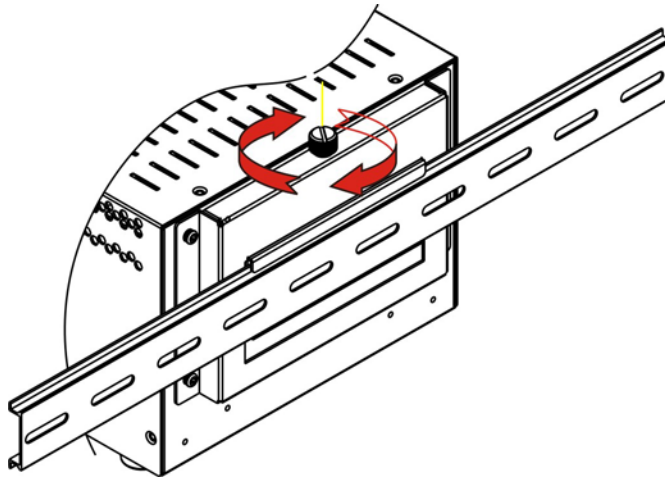

Figure 3-22: Secure the Assembly to the DIN Rail
Step 4: Secure the DIN rail to the mounting bracket by turning the top screw clockwise. This draws the lower clamp up and secures the embedded system to the DIN rail (**Figure 3-22**).